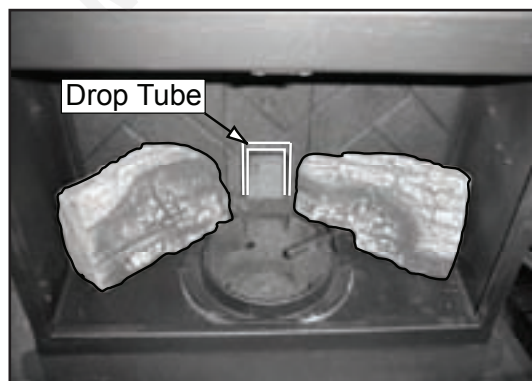

Figure 20.2
2. Continue placing the last 3 logs around the firepot as show in **Figures 20.2, 20.3 and 20.4.** Be careful not to block the drop tube in the back of the firebox where pellets feed into the firepot.